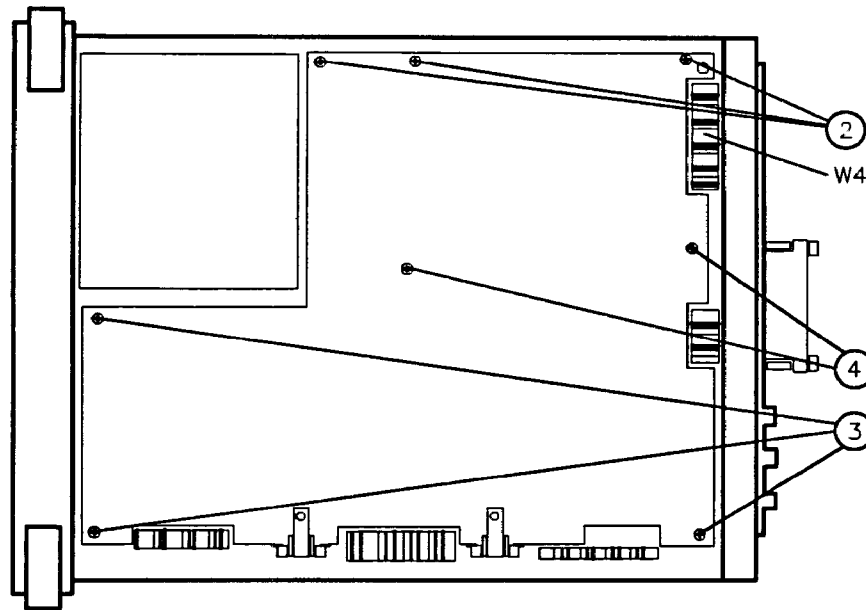

Figure 3-8. A2, A3, A4, and A5 Assembly Removal
3. Remove the eight screws holding the A2, A3, A4, and A5 assemblies to the top of the analyzer. These screws are labeled 2, 3, and 4 in Figure 3-8. They are also labeled on the back of the A2 board assembly.
4. Remove ribbon cable W4 from A2J6. See Figure 3-8.
11. Attach ribbon cable W4 to A2J6 while folding up the assemblies. See Figure 3-8.
12. Secure the assemblies using the eight screws removed in "Removal" step 3. Place a flat washer on each screw. The screw sizes and quantities are listed below. Numbers in parentheses match placement identification numbers on Figure 3-8.